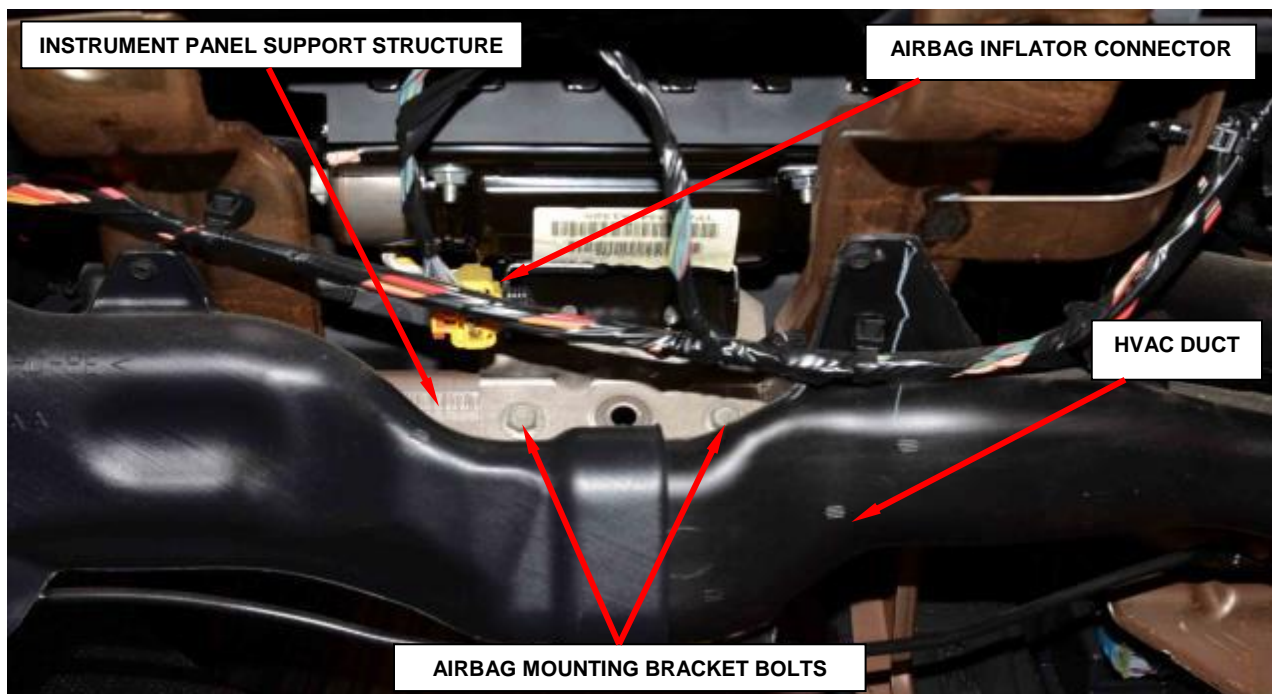

Figure 92 – Instrument Panel Mounting Bracket
33. Remove and save the two bolts that secure the passenger airbag bracket to the instrument panel support structure (Figure 92).
34. Disconnect the instrument panel wire harness connector from the airbag inflator pigtail connector on the right side of the airbag mounting bracket (Figures 92 and 93).